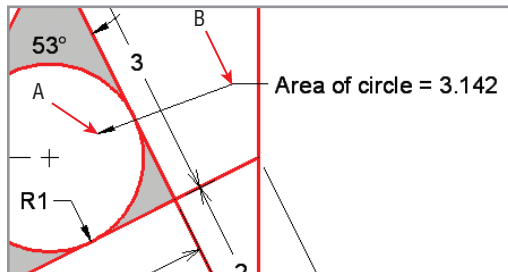

FIGURE 11.20 Adding a leader object
2. Select the Leader tool in the Annotation panel. Click points A and B, type **Area of circle = 3.142** (as shown in Figure 11.20), and then press Ctrl+Enter. You have to use Ctrl in addition to Enter to end the command because Enter by itself advances to the next line.